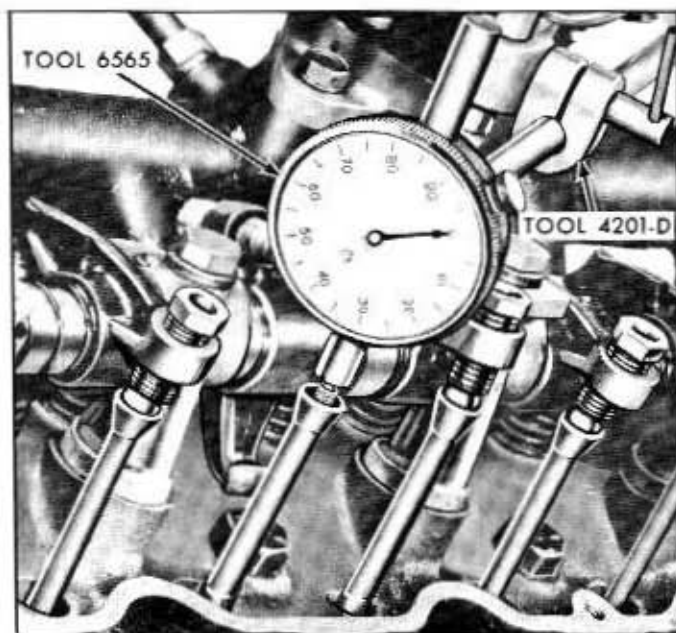

Fig. 6A-10—Camshaft Lobe Lift—Typical—(60C-5610)
1. Install a quadrant on the crankshaft damper. Back off the number 1 intake valve adjusting screw, then slide the rocker arm to one side and secure it in this position. Make sure the push rod is in the tappet socket, then install a dial indicator in such a manner as to have the actuating point of the indicator in the push rod socket and in the same plane as the push rod movement. See figure 6A-10.